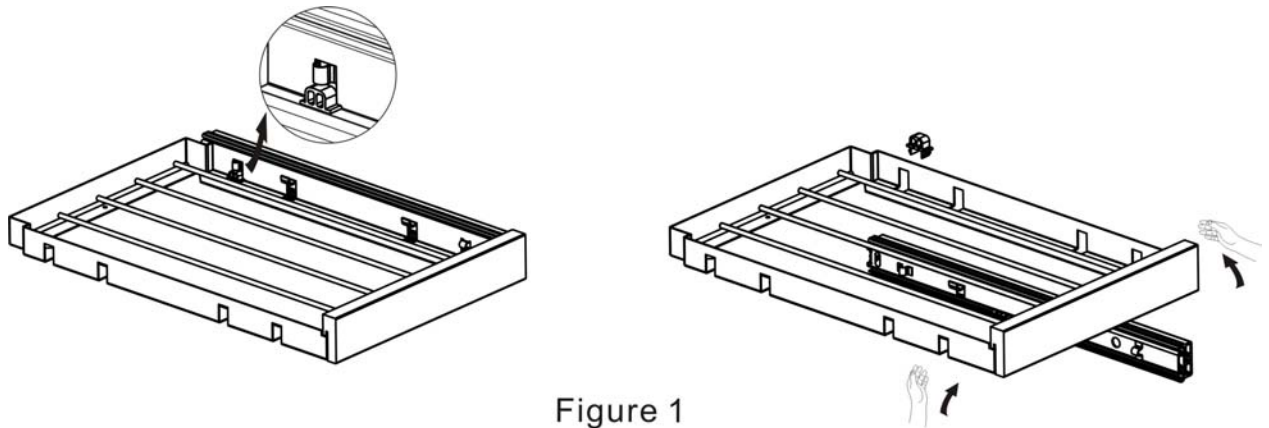

Figure 1
2. Remove the stopper from each side of the rack, and gently pull up. You can then remove the rack. (Fig. 1)